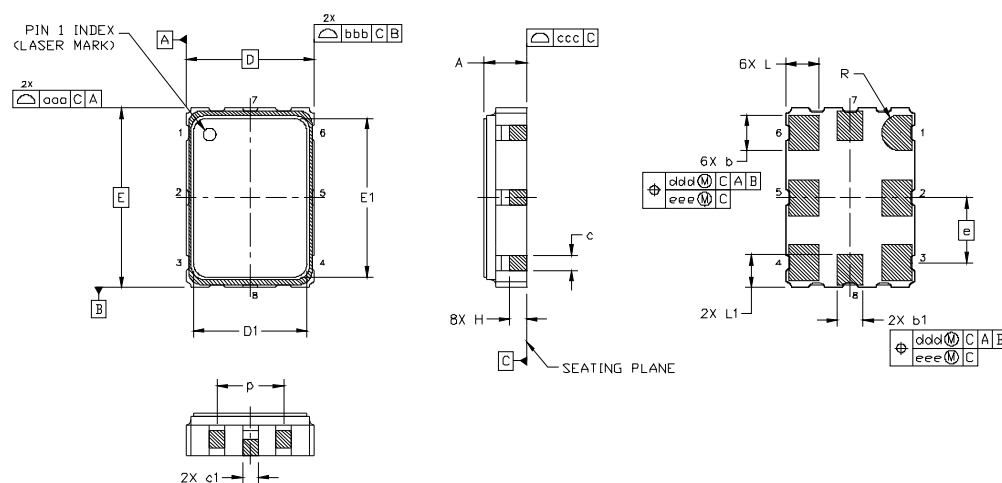

Figure 2. Si597 Outline Diagram
Figure 2 illustrates the package details for the Si598/Si599. Table 12 lists the values for the dimensions shown in the illustration.
- Updated Figure 2 on page 9.